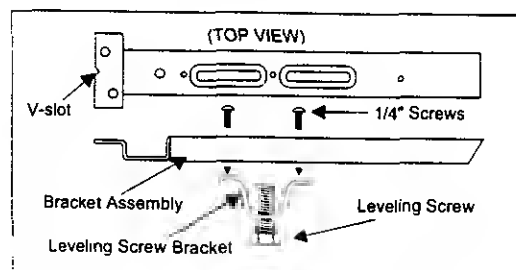

Fig 9
A. Assemble the leveling screw bracket to the bracket assembly as shown in (Fig 9), using two 1/4" screws provided. Install the leveling screws into each of the leveling screw brackets (This will require the use of an adjustable wrench).